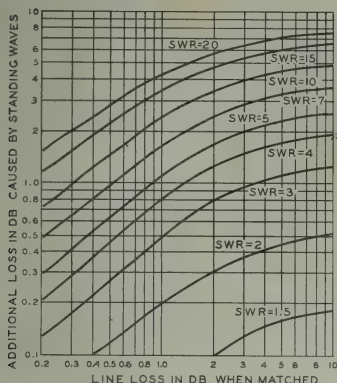

Figure 2
2. With a high SWR, the losses in the transmission line may become so great that the power radiated by the antenna is appreciably reduced; with high-power transmitters, the cable ratings may be exceeded. Figure 2 on Page 13 shows the effect of increasing cable losses caused by various values of SWR. All these extra losses are RF power turned into heat in the cable instead of radiated signal at the antenna.